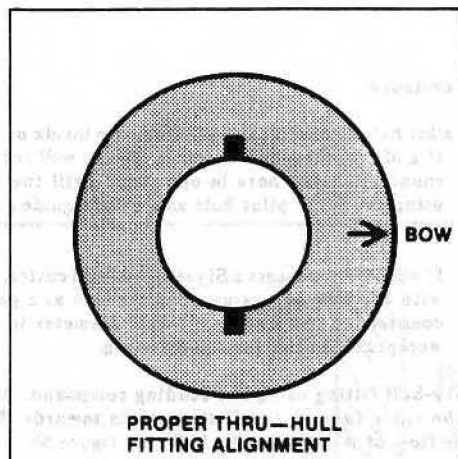

Figure 5
5. Install the thru-hull fitting using the bedding compound. Make sure the arrow stamped on the outer face of the fitting points towards the bow of the boat, parallel to the flow of water over the hull (see figure 5).